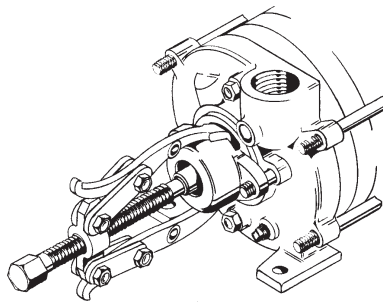

Figure 4-1
3. The bearing arm (#3) may now be removed. A gear puller may be necessary.(refer to figure 4-1) The outboard ball bearing (#24) should now be removed. A gear puller will need to be used for this operation. If the bearing can be removed too easily, a worn bearing surface may be indicated. Replace the shaft and bearing as necessary before reassembly.
since the bearing (#24) is held in the bearing arm by means of a snap ring (#4). Removal of the bearing arm will bring the bearing along with it.(see figure 4-1)